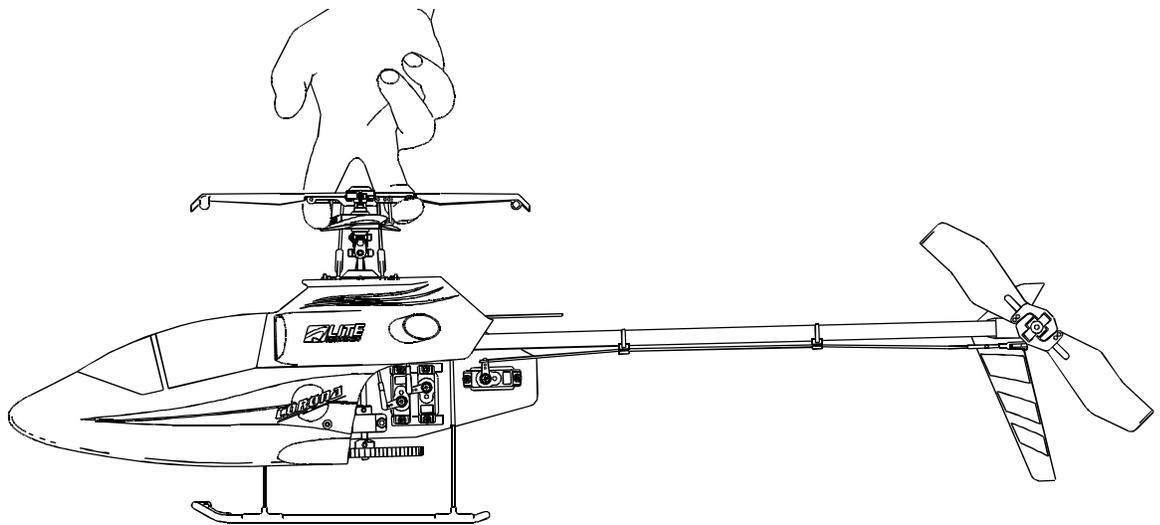

Figure 14-1.
- ❑ 7. To check for proper center-of-gravity, rotate the main rotor until the blades are perpendicular to the tail boom and pick up your *Corona* by the *Subrotor* stabilizer as shown in Fig. 14-1. With the battery installed, the fuselage should hang level (with the tail boom parallel to the ground) or slightly nose-low. If the tail hangs low, your helicopter could become unstable in forward flight. In this case move your battery forward.